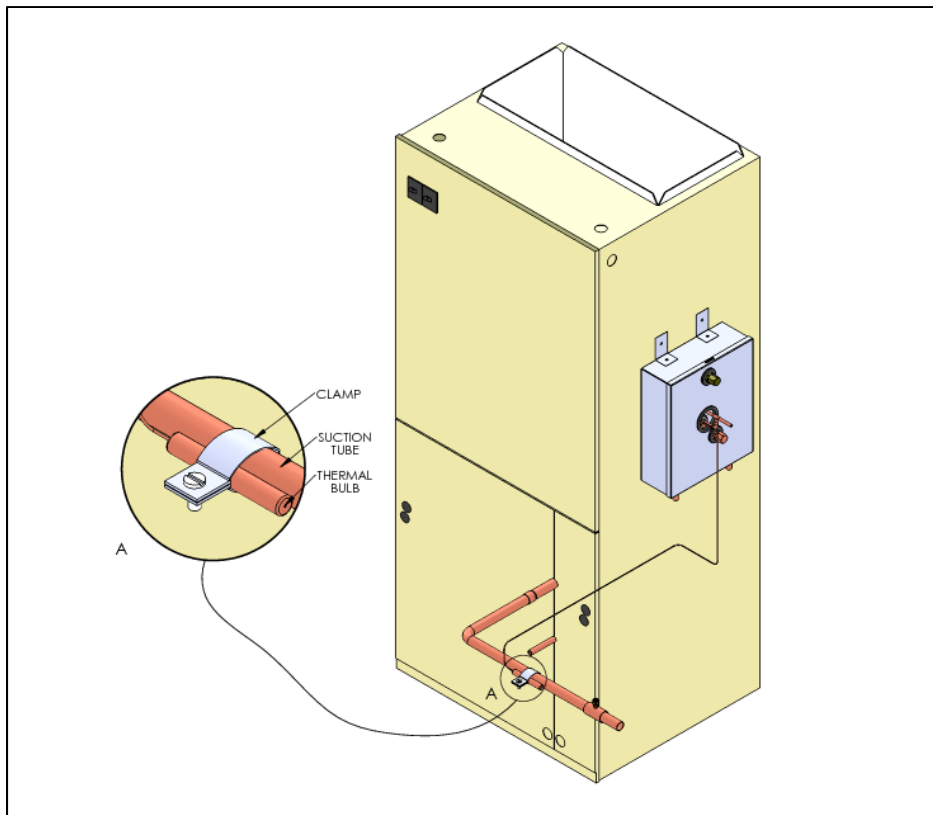

Figure 11. Clamping the Thermal Bulb
Step 4: Clamp the thermal bulb firmly against the **clean suction tube** and parallel to it, as shown in Figure 11.